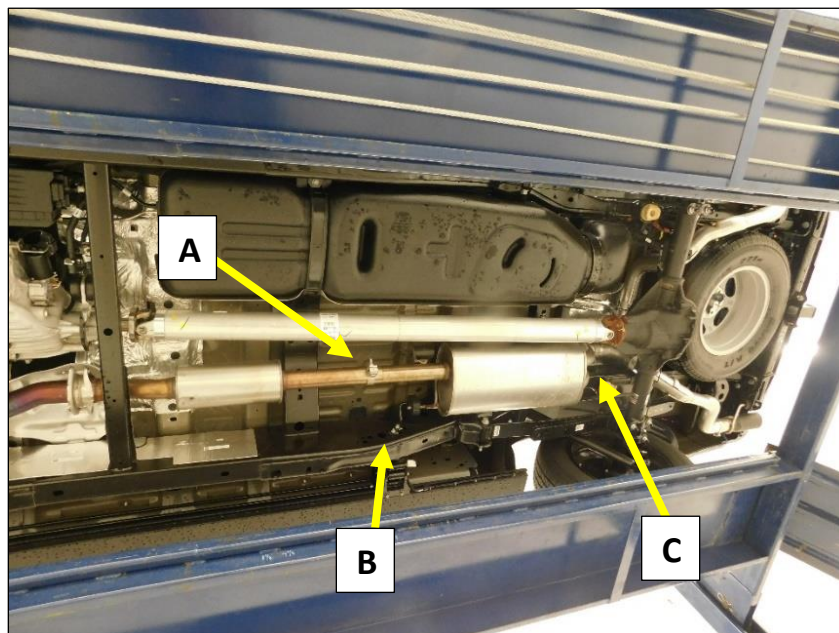

Figure 4
9. Loosen the clamp at the slip joint between the muffler and the resonator **(A)**. **Fig.4**
11. Remove the (x2) bolts at the muffler hanger on the frame rail **(B)**. **Fig.4**
12. Remove the bolt from the muffler hanger over the muffler and remove the hanger from the cross brace **(C)**. **Fig.4**
13. Remove the muffler from the vehicle by sliding the muffler rearward off the resonator pipe. **Fig.4**